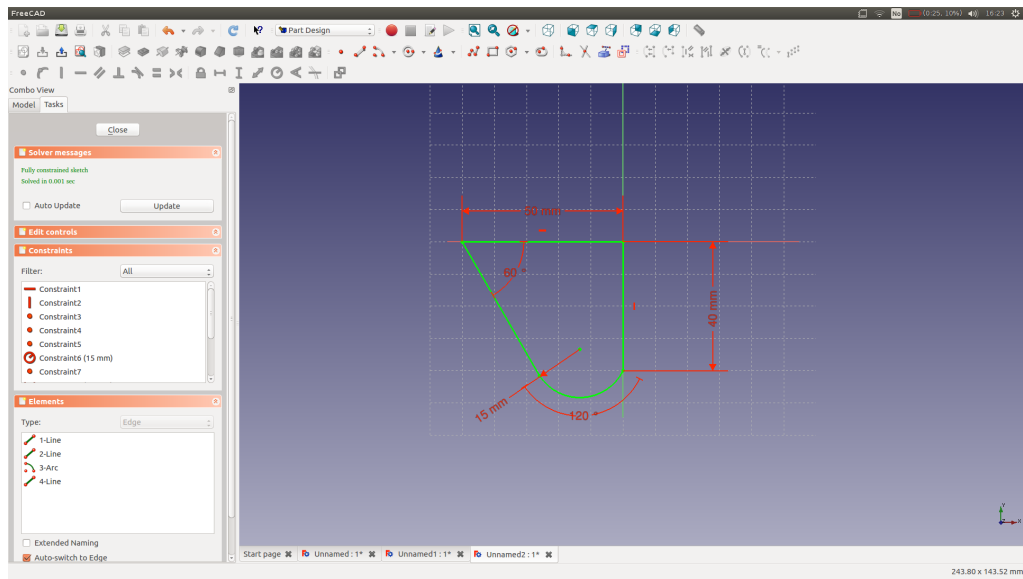

Figure 5: A fully constrained sketch turns green.
- Similarly, set the length of the horizontal and vertical lines (this can be done with the **Fix the horizontal distance** and the **Fix the vertical distance** buttons, or with the **Fix a length** button), the angle between the horizontal and the inclined line (use the **Fix the angle** button), make the top left corner of your sketch coincident with the origin, and set the angle of the arc of circle. Your sketch should then be fully constrained and turn green. Drag the labels around so that your sketch looks like the picture in Fig. 5.